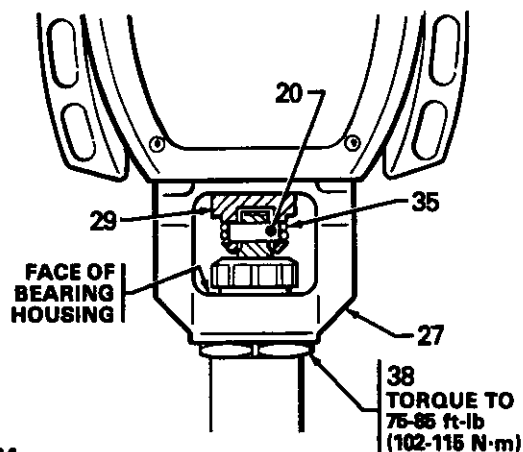

Fig 24
**DO NOT** use the bearing housing screws (33) to try to align or seat the bearing housing; the bearing and drive housing will not align properly and will result in premature bearing wear.
14. Install the screws (33) and lockwashers (49) on the bearing housing and tighten evenly.
15. Screw the displacement pump about 3/4 of the way into the bearing housing (27). Hold the pin (20) up to the pin hole in the connecting rod assembly (29) and continue screwing in the pump until the pin slides easily into the hole. Back off the pump until the top threads of the pump cylinder are flush with the face of the bearing housing and the outlet nipple (46) is facing back. Push the retaining spring (35) into the groove all the way around the connecting rod. Tighten the locknut (38) very tight—about 76-85 ft-lb (102-115 N·m)—with a 2 in. open end wrench and a light hammer. See Fig 24.
Be sure the retaining spring (35) is firmly in the groove of the connecting rod, *all the way around*, to prevent the pin (20) from working loose due to vibration. See Fig 24.